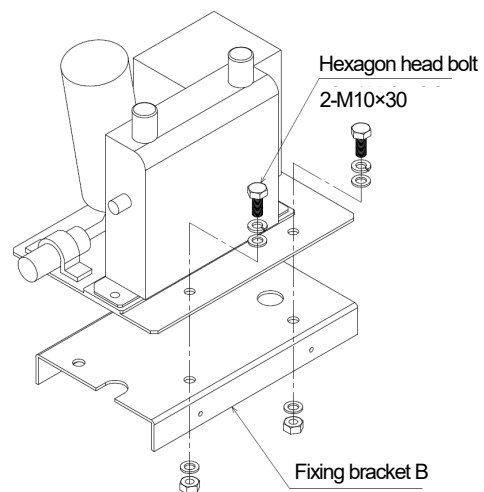

Figure 1.5 Mounting of wire feeder
2. Referring to Figure 1.5, mount the wire feeder to the fixing bracket B. Mount it using the hexagon head bolts and washers and nuts.